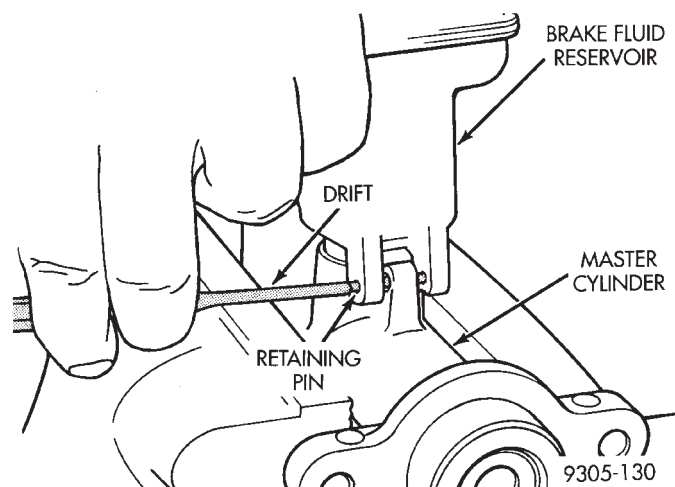

Fig. 4 Reservoir Retaining Pins
(1) Clean master cylinder housing and brake fluid reservoir.
(2) Remove the brake fluid reservoir caps. Using a syringe or equivalent empty brake fluid from reservoir.
(3) Position master cylinder in vise.
(4) Remove the 2 fluid reservoir to master cylinder retaining pins (Fig. 4).
(9) Make sure bottom of reservoir touches top of grommet.
(10) Install the 2 fluid reservoir to master cylinder retaining pins (Fig. 4).